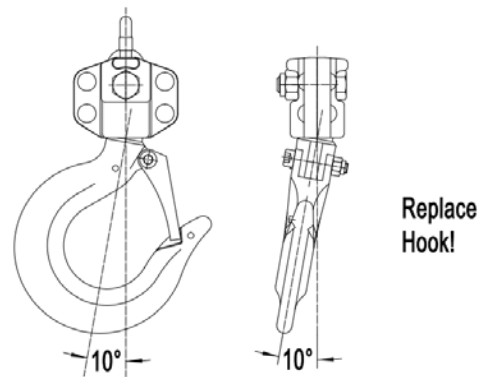

Figure 3
- The vertical angle at the neck of the hook reaches 10° (see Figure 3).